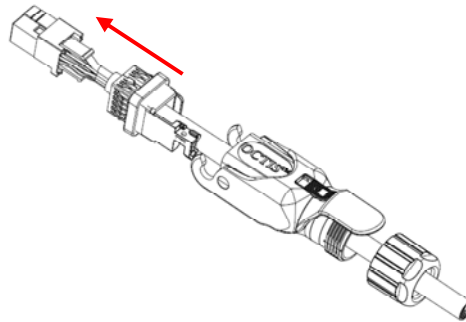

Figure 33
6. Push the cable assembly into the cable connector housing till it gets fixed inside the housing. (Fig 33)